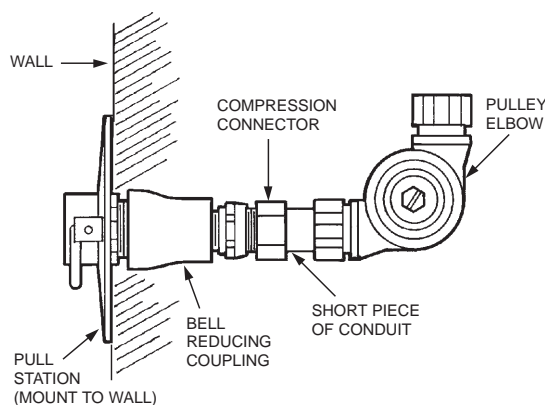

FIGURE 30a
- Thread 3/4 x 1/2 in. reducing coupling to bushing on back of each cover assembly. See Figure 30a.